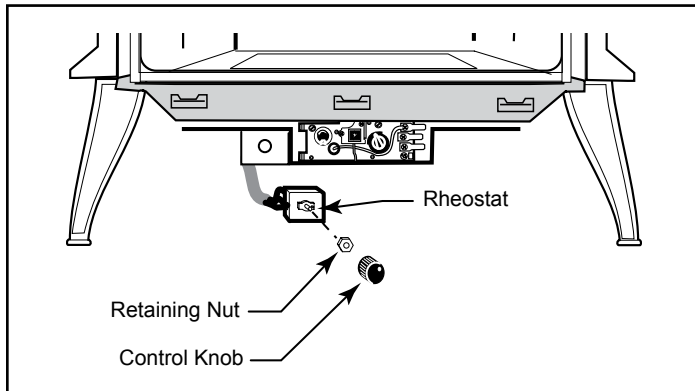

Fig. 13 - Attach rheostat to control panel. Valve may look different.
11. The rheostat control switch attaches to the left side of the valve bracket at the front of the stove. (Fig. 13)